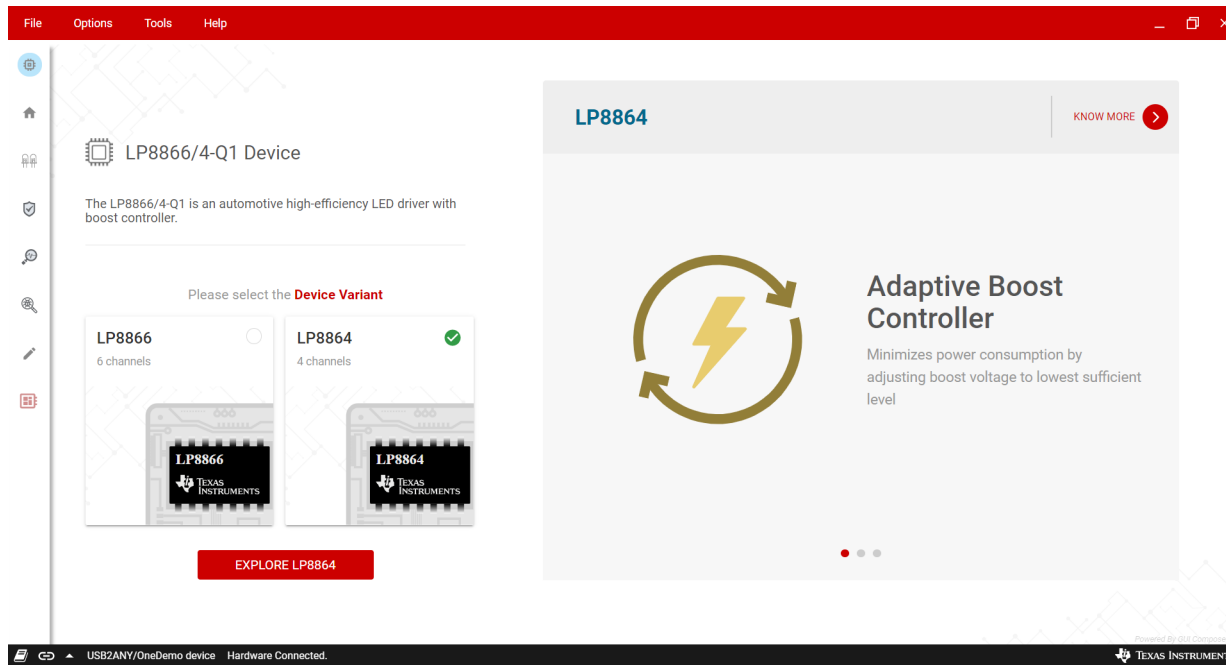
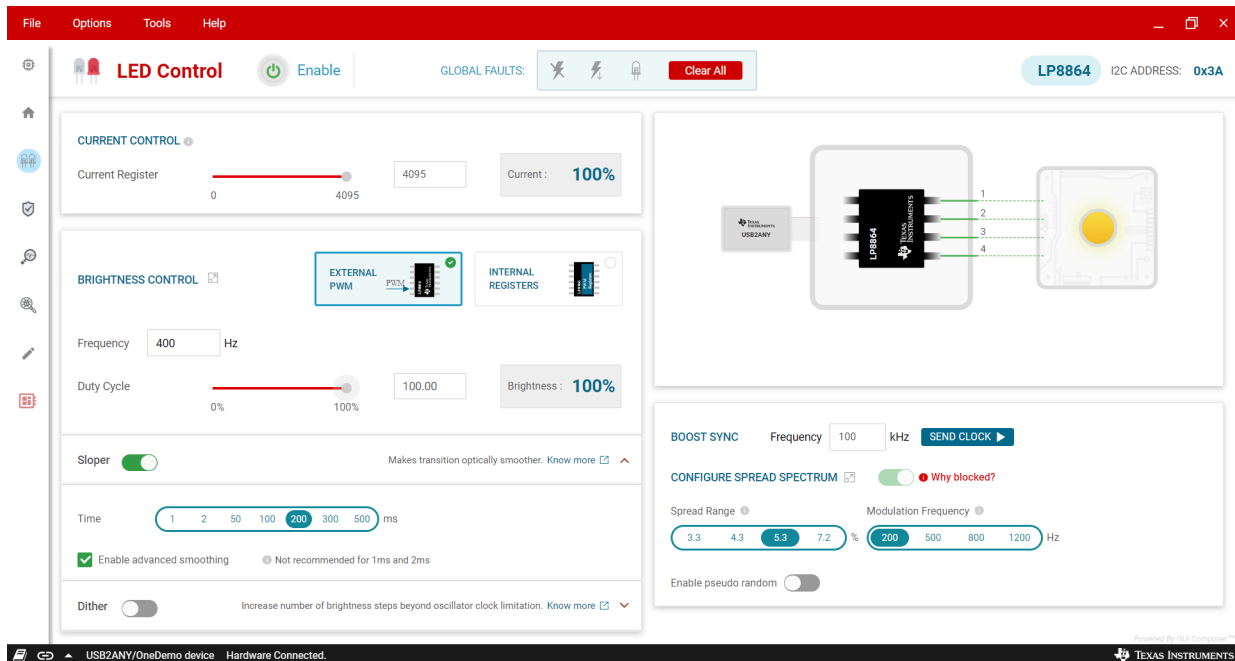

Figure 2-3. LP8866/4 Family GUI Landing Page
Figure 2-5. LP8864EVM LED Control Page
1. After the hardware is connected successfully, run the GUI software. Turn on the 12-V external power supply. Select the right device variant of the EVM, which is LP8864, as shown in Figure 2-3.
2. Check the connection status button on the bottom left corner of the GUI. The button should be like the one shown in Figure 2-3. There should be a *Hardware Connected* message on the status bar next to the button. If it shows *Hardware not Connected*, click the button to manually connect the hardware. This button can be used to connect or disconnect the GUI to the hardware during the evaluation. Besides the connection status button, the device should be enabled to be connected to the GUI. Ensure the *Enable* button on the LED Control Page (see Figure 2-5) is enabled.
4. Click the *START* button to go to the LED Control page (see Figure 2-5). On the LED Control page, the user can control all the register-based control functions of the device, like brightness control, current control, sloper control, dither control, boost synchronization configuration, and spread spectrum configuration.